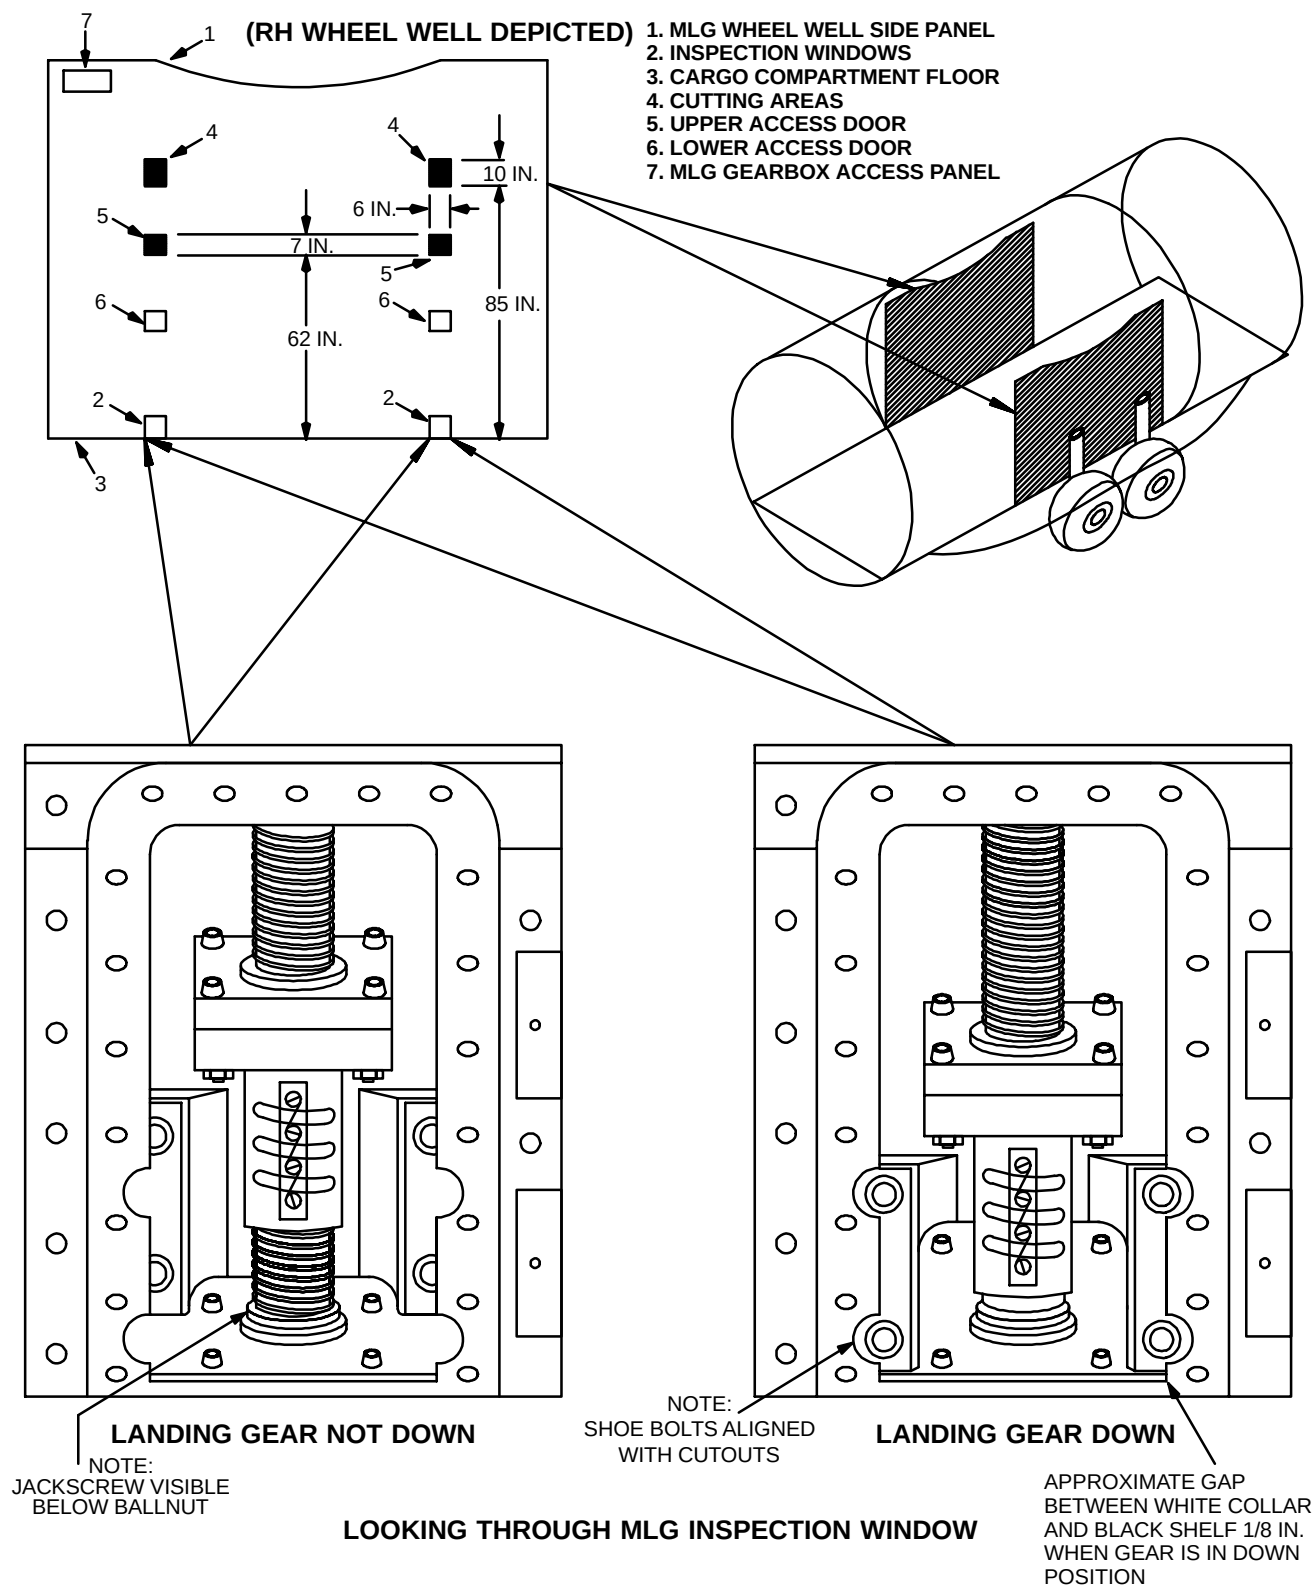

Figure 3-11
If the manual drive fails to engage, or the spring-loaded brake fails to release, it may be an indication of the emergency engaging handle cable being broken or disconnected. This may be indicated by the emergency engaging handle being extremely easy to pull to the extended position. Should this occur, remove the access panel on the forward upper wheel well area (figure 3-11) for main landing gear brake and gearbox assembly. Pull down and hold (secure) the manual shift lever at the bottom of the gearbox to disengage the brake and shift gearbox to manual drive. Continue with manual extension of gear.
A malfunction that locks any component of the main landing gear extension system may also lock the remainder of the system. In such a case, if the universal joints on the vertical torque shaft are disconnected, the landing gear may free-fall to the down position. If the landing gear does not free-fall, each landing gear strut can be extended by rotating the jack-screws, using the vertical torque shaft as an improvised wrench, or with the emergency extension wrench. Use this procedure to lower the main landing gear only after all other normal and emergency procedures have failed. Refer to figure 3-11 for access doors or cutting areas.
7. To remove the vertical torque shaft on airplanes without the emergency extension wrench, cut a hole above the upper access door. (See figure 3-11.) Secure the top of the vertical torque shaft to some point inside the cargo compartment with wire to prevent loss of the shaft. Remove the bolt and nut that retains the upper end of the shaft spline to the gearbox. Pull the vertical torque shaft into the cargo compartment through the upper access hole.
Cutting areas for this step are depicted on figure 3-11, area 4.